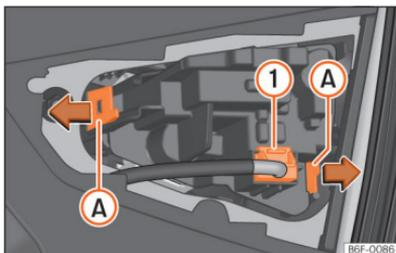

Fig. 174 Remove the bulb holder.
- Remove the bulb connector >>> Fig. 174 ①.